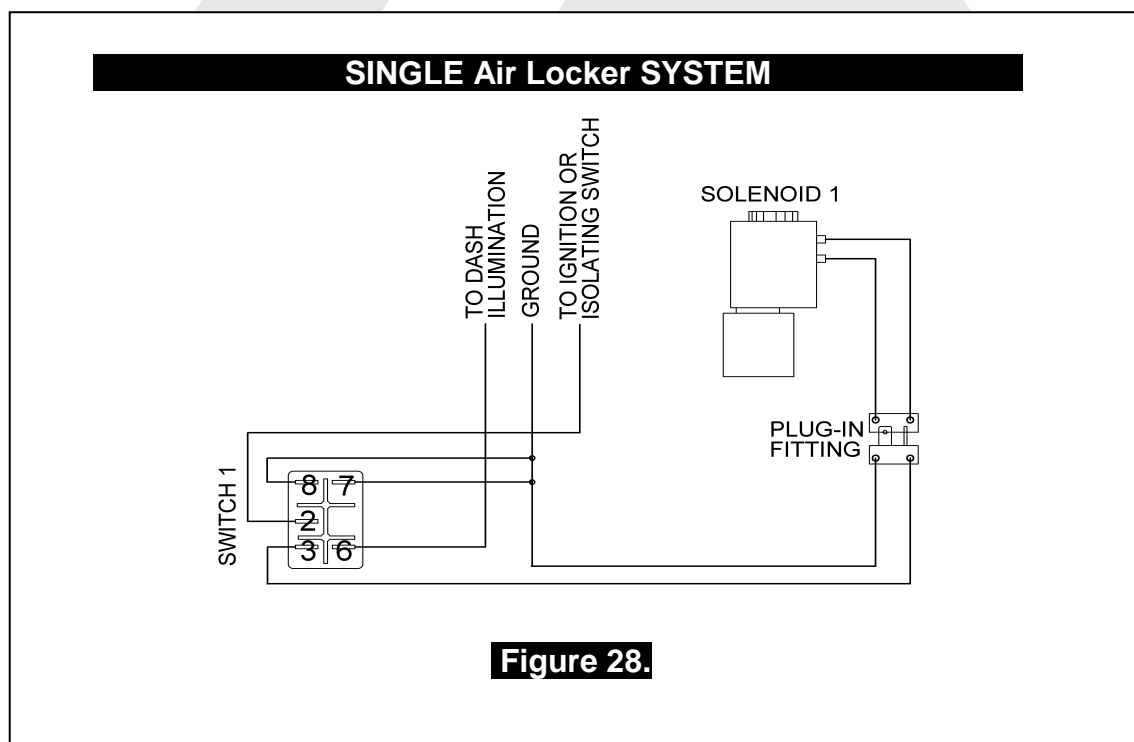

Figure 28.
When connecting the actuation switch to an alternate air source, the switch(es) should be wired according to figures 28. and 29. depending on whether one or two *Air Lockers* will be installed in the vehicle.
- ☐ If only one *Air Locker* is to be installed in the system, the switch and solenoid should be wired according to figure 28. regardless of whether the *Air Locker* has been installed in the front or rear axle of the vehicle.